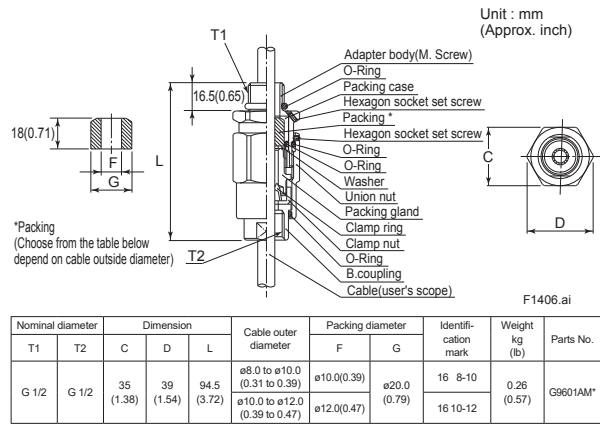

Figure 14.5.1 Flameproof Packing Adapter
- (c) Calculate the average of the two diameters, and use packing with an internal diameter nearest to this value (Read Table of the Figure 14.5.1).